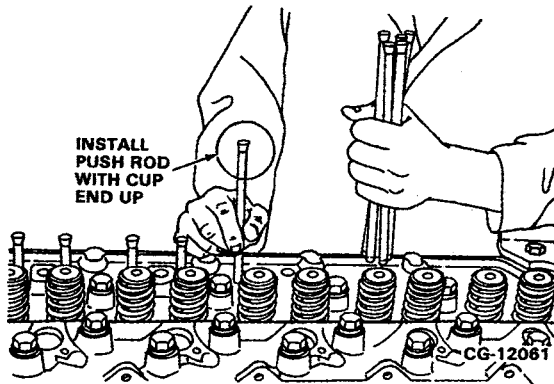

Figure 4.68. Install Push Rods
7. Install the push rods with the cup end up as shown in Figure 4.68.